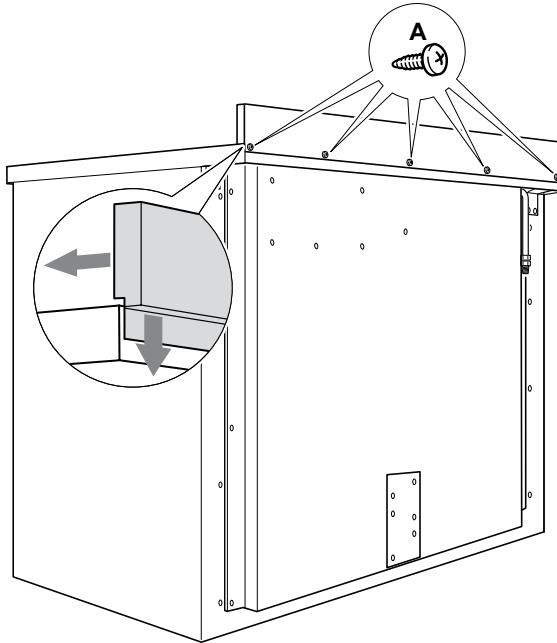

Fig. 7.2
- Assemble the backguard as shown in figure 7.2 and fix it by screwing the 5 screws "A".